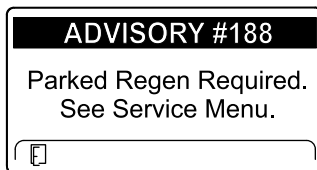

Figure 50
- Parked regeneration required ADVISORY #188 (Figure 50)